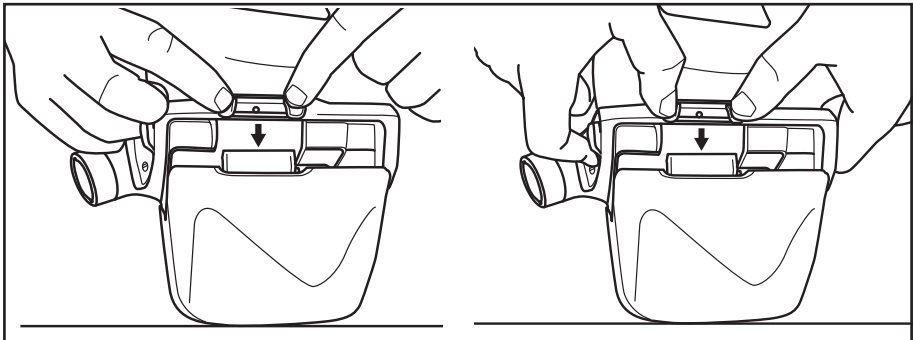

Fig. 6 – Filter/Cartridge removal
- Hold the unit downwards so the back (belt side) faces you and the filter and cover face down on a flat surface (Fig. 6) to help minimize the potential for contamination of the motor/blower inlet.
- Press the yellow filter latch on the left side (Fig. 6). The latch requires two fingers to engage. Pull the filter/cartridge out and away from the motor/blower.